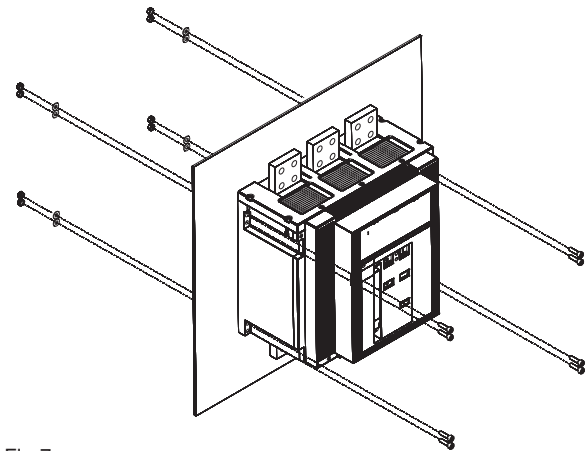

Fig.7
The R frame must only be mounted in a vertical plane. Installation of the frame requires eight (8) M8 fasteners as shown in figure 7.